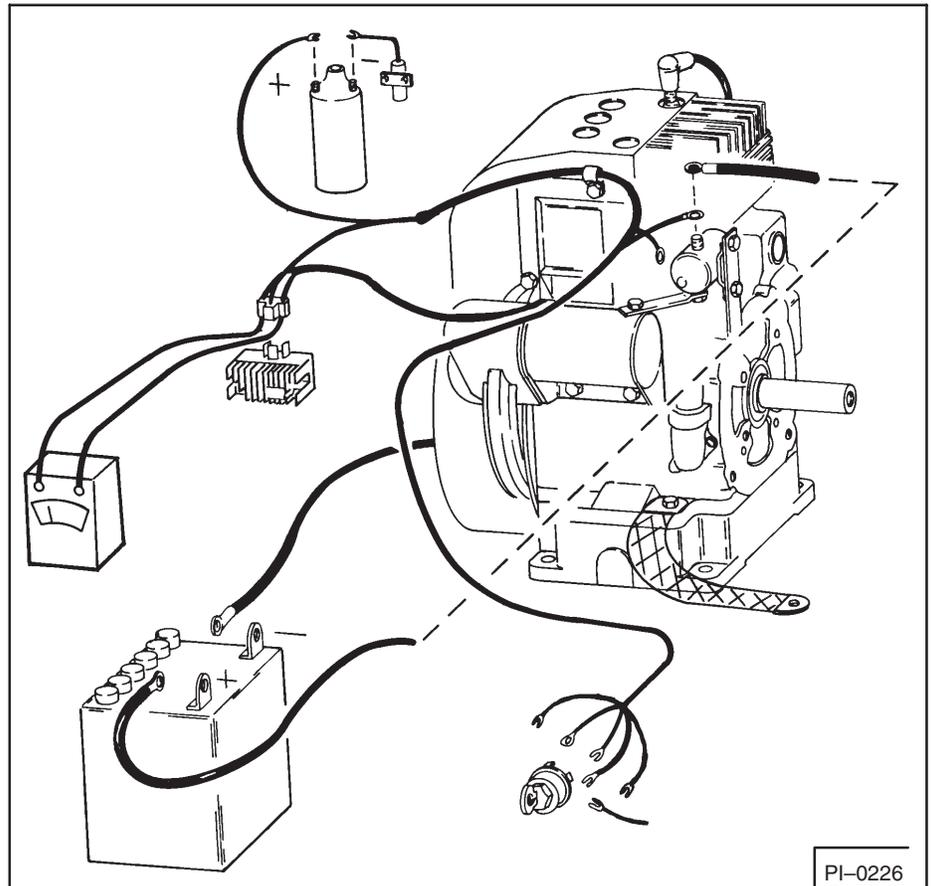

Fig. 72 Test No. 2
3. 0 volts—check for a defective stator or rectifier/regulator (Test No. 2). Test No. 2 (Fig. 72)
### Test No. 2 (Fig. 72)